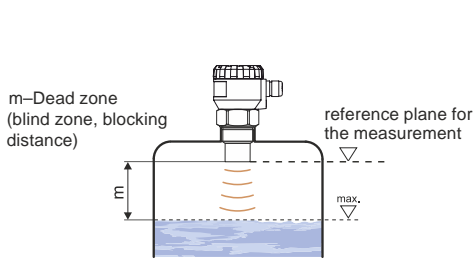

Fig. 2: Level meter dead zone
- The reference plane for the measurement is the lower edge of the transducer (Fig.2). In connection with the measurement principle, no signals reflected in the area immediately under the level meter can be evaluated. The zone (Fig.2) determines the min. distance possible between the level meter and the highest surface level. The min. distances to the medium are given in the chapter „Specifications“